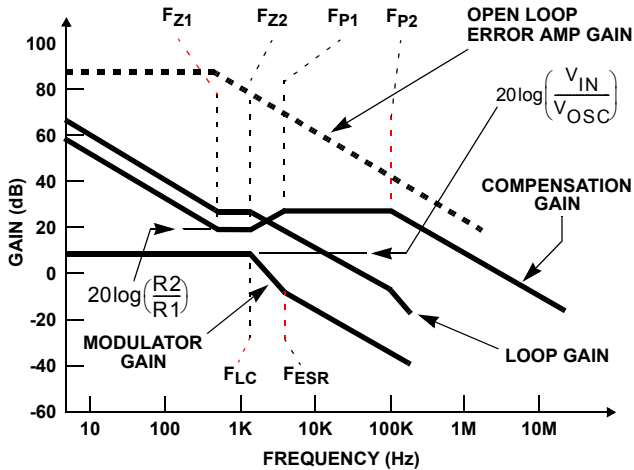

FIGURE 8. ASYMPTOTIC BODE PLOT OF CONVERTER GAIN
Figure 8 shows an asymptotic plot of the DC-DC converter’s gain vs. frequency. The actual modulator gain has a high gain peak dependent on the quality factor (Q) of the output filter, which is not shown in Figure 8. Using the above procedure should yield a compensation gain similar to the curve plotted. The open loop error amplifier gain bounds the compensation gain. Check the compensation gain at F_{P2} with the capabilities of the error amplifier.